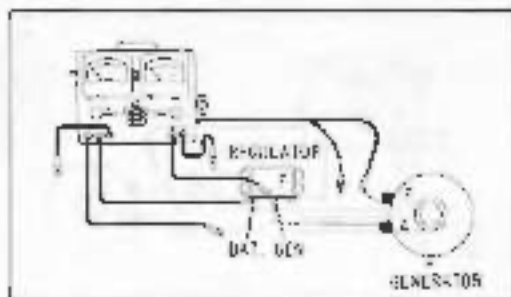

Figure 51-11.
B. TESTER CONNECTIONS (See Fig. 51-11)
D. TESTING OUTPUT RELAY UNIT CLOSING VOLTAGE (Fig. 51-11)
Both load and no-load voltage readings must be within specifications or regulator should be repaired. (See Fig. 51-11.)
1. Contact points dirty, oxidized or pitted - To clean contacts, refer to manufacturer's Service Bulletin. (See Fig. 51-11.)
After any faults have been corrected, regulating units must be adjusted according to manufacturer's Service Bulletin. (See Fig. 51-11.)